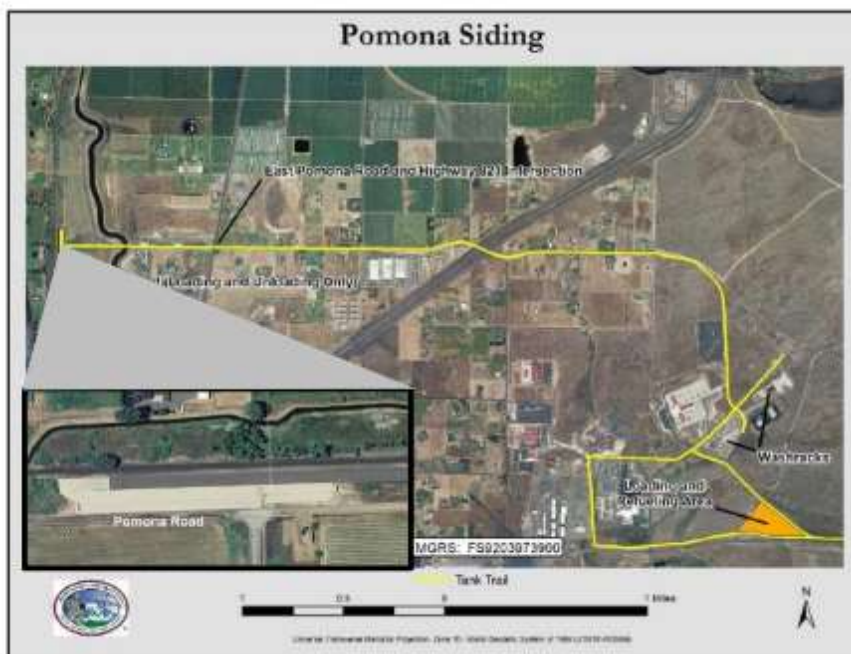

Figure 3-1. Pomona Railhead to Cantonment route
a. Pomona Siding Railhead is two miles west of the cantonment on East Pomona Road at grid 10T FS 92067384. Units can schedule the use of the railhead through JBLM-YTC Range Operations. Tracked vehicles are not allowed in the cantonment area and must be moved to and from the railhead using the route located in figure 3-1.